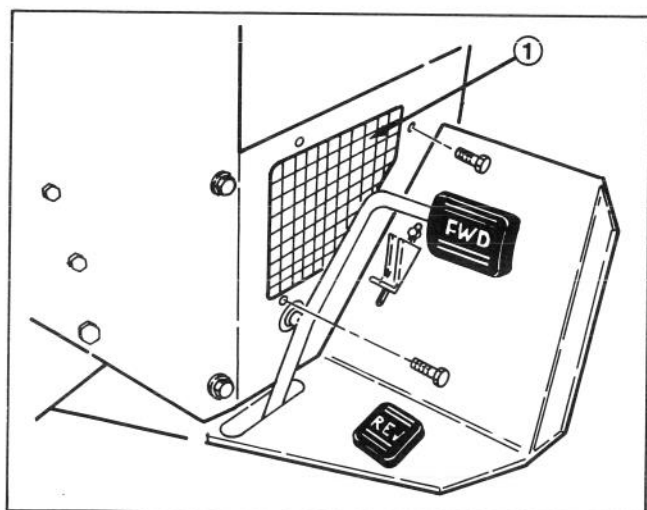

Figure 39
ADJUSTING TRACTION PEDAL (Fig. 39 & 40)
- 1. Remove (3) self tapping screws securing support screen to hydraulic support panel (Fig. 39). Remove screen.